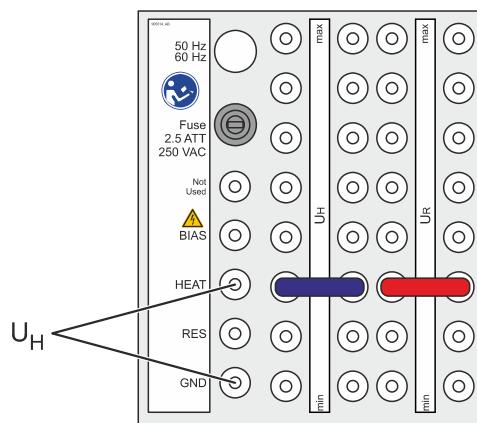

Figure 152: Measuring thyatron heating voltage
6. Use the TRMS voltmeter to measure the heating voltage of the thyatron (U_H) between the jacks GND and HEAT (see Figure 152) and note the value.